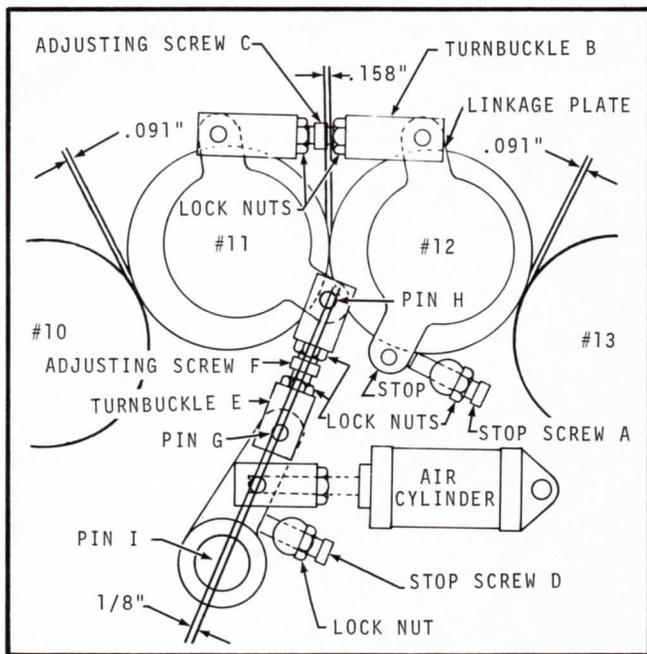

Figure 30 IRON-TO-IRON SETTINGS
IRON-TO-IRON SETTINGS (Fig. 30)
To Check the Setting, use the gauges furnished with the press. The settings between all the cylinders are shown in Figure 30.
1. Open the housing on the operating side of the unit and open the door on the drive side. Figure 30 shows the linkage arrangement on the operating side. The linkage on the drive side is identical.